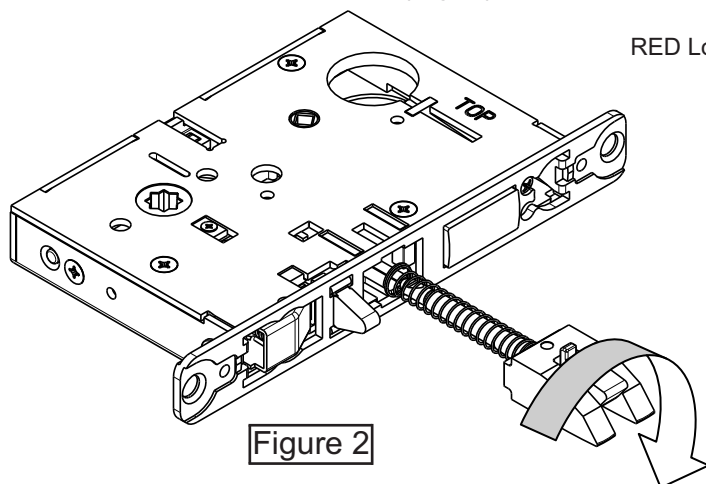

Figure 2
Step 3) Pull latch out of lock body and turn latch over (Fig. 2)